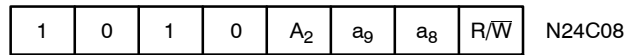

Figure 3. Slave Address Bits
The Master initiates data transfer by creating a START condition on the bus. The Master then broadcasts an 8-bit serial Slave address. For normal Read/Write operations, the first 4 bits of the Slave address are fixed at 1010 (Ah). The next 3 bits are used as programmable address bits when cascading multiple devices and/or as internal address bits. The last bit of the slave address, R/W, specifies whether a Read (1) or Write (0) operation is to be performed. The 3 address space extension bits are assigned as illustrated in Figure 3. A₂ must match the state of the external address pin, and a₉ and a₈ are internal address bits.